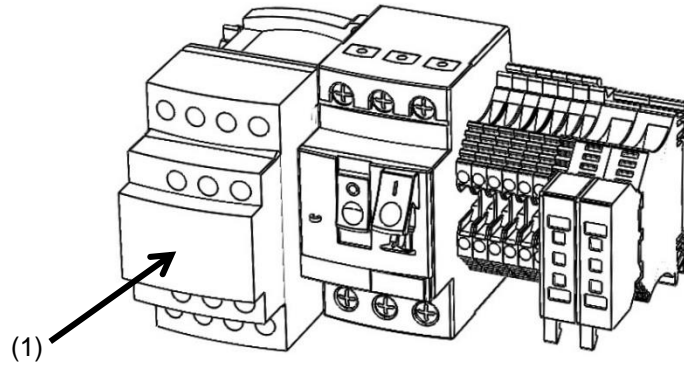

Figure 21 X12 Terminal block, location of contactor pushbutton
Close valve V2 and check that V1 is open and V6 is closed. Run the pump by removing the plastic lid of the contactor and push the contactor button (1) (see Figure 21). Do this for a few minutes letting the entrapped air escape through the water tank.